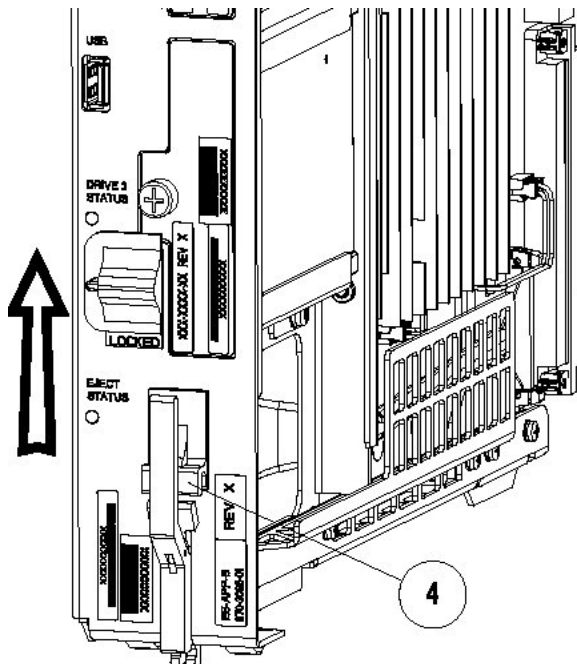

Figure 42: E5-APP-B Card Eject Hardware Switch, UNLOCKED
1. On the E5-APP-B card, slide the Ejector switch (4) up to the UNLOCKED position (see Figure 42: E5-APP-B Card Eject Hardware Switch, UNLOCKED).